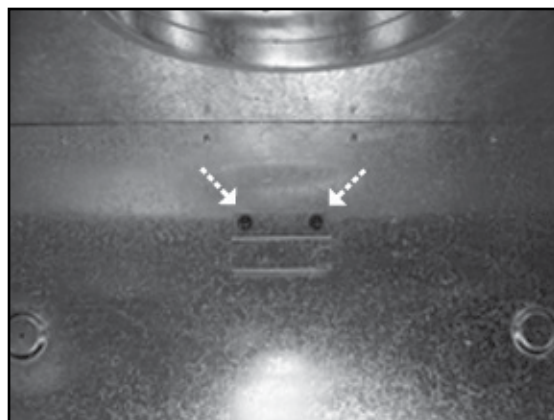

Figure 1
1. Look into fireplace opening and locate back panel retaining clip positioned against rear wall of fireplace. (Figure 1). Remove (2) screws attaching clip to rear wall and set clip and screws aside. Position rear panel against rear wall and reattach clip with (2) screws.
2. Locate left panel retaining clip and remove (2) screws and set clip and screws aside. Position left panel against left wall and reattach clip with (2) screws.